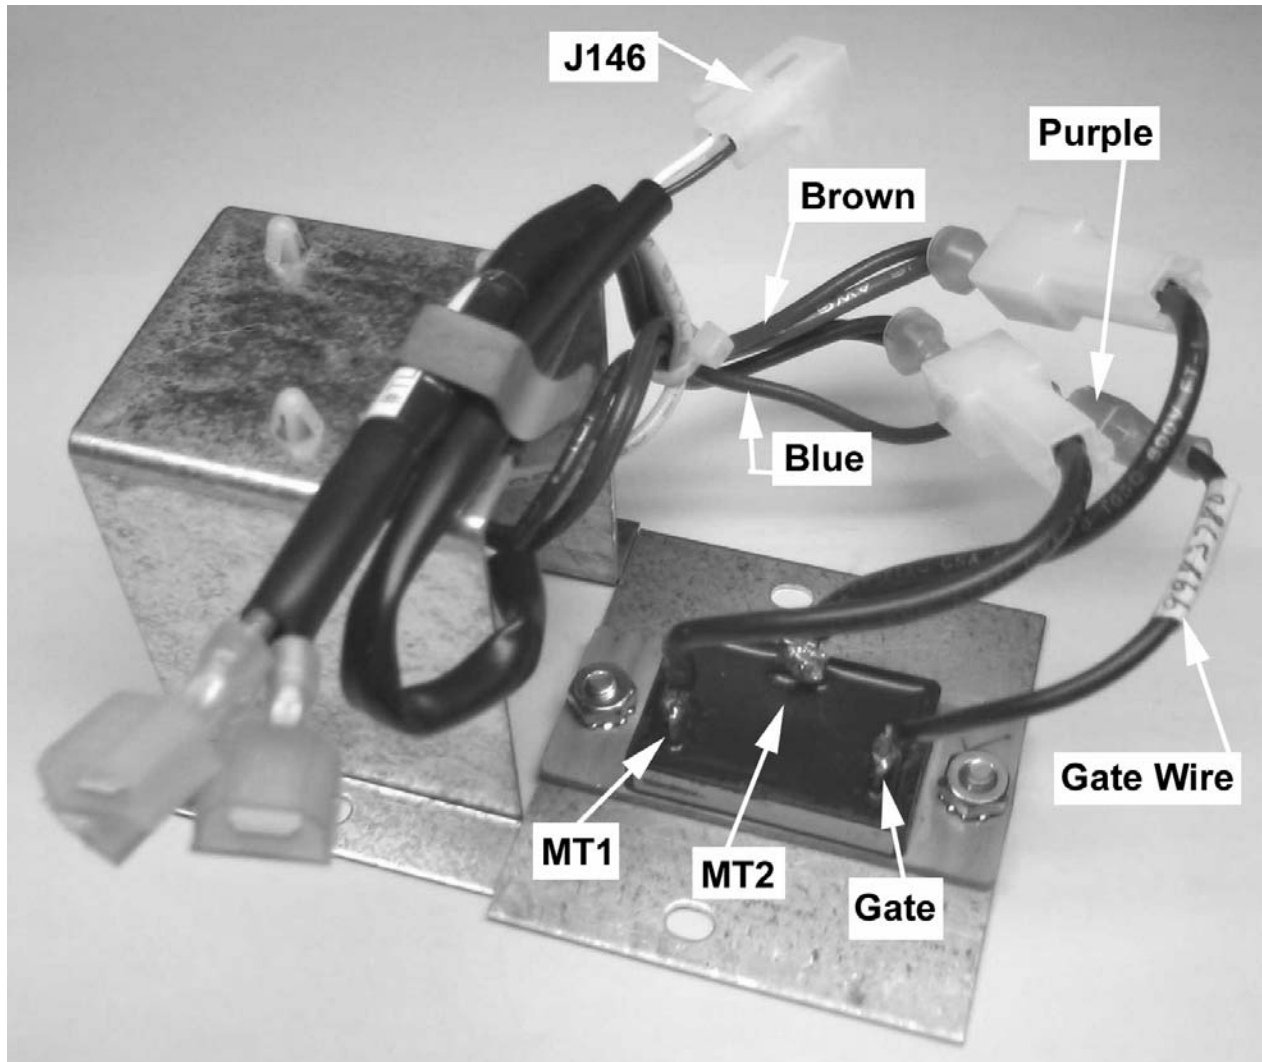

Figure 2
7. The Triac Assembly Plate (p/n 4300072) provided with this kit has two holes offset from the center. Mount the new 70 Amp Triac (p/n 9983780) to the plate so that the holes are offset to the **left** of MT2 (see Figure 2 below). Use the two #8-32 nuts (p/n 9900081) provided and make sure the triac is mounted securely to the plate.
Important Note: Notice how the triac's three terminals form a triangle as shown in Figure 2. The thin black wire attaches to the triac Gate terminal. Connect that wire to the Purple wire in the original triac harness. The triac MT1 lead wire connects to the double crimped Blue wires and MT2 connects to the Brown double crimped harness wire. Make sure that the MT1 and MT2 connectors are attached to the proper harness connectors or the compressor will not turn on.